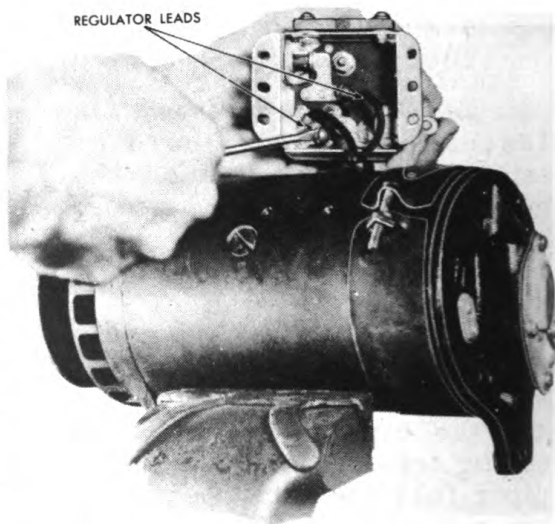

Figure 232. Removing Regulator.
A. Before subjecting the generator to the bench test, remove the voltage regulator by taking out the regulator mounting screws and disconnecting the regulator leads as shown in Figure 232.
1. Remove the regulator mounting screws and disconnect the regulator leads as shown in Figure 232.